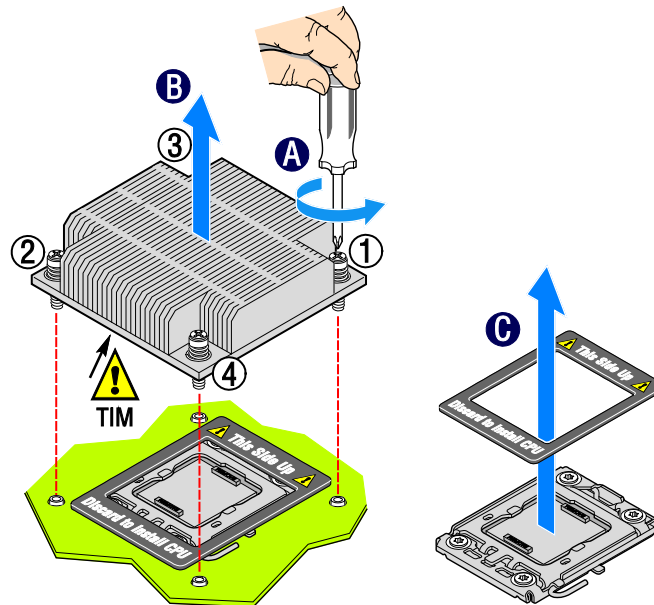

Figure 1. Removing the Heatsink
1. Loosen the four captive screws on the heatsink corners in a diagonal manner according to the numbers shown in figure 1 as follows:
- ii. Remove and discard the spacer (see letter “C” in figure 1).